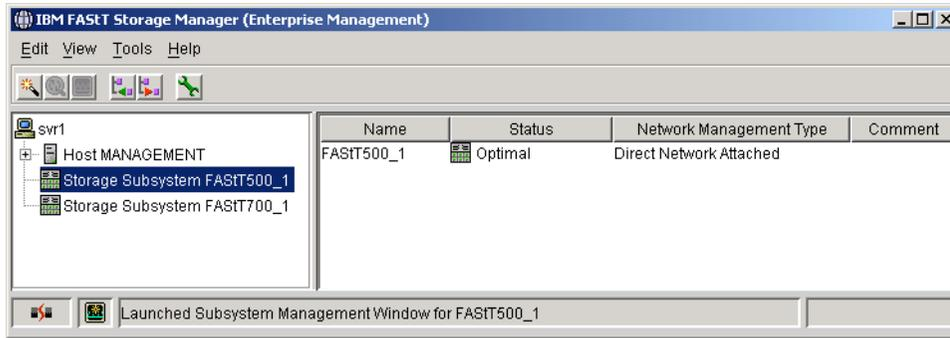

Figure A-1 Selection of FAST RAID Controller
1. Storage Manager starts at the Enterprise Management window, which displays the storage servers that you are able to manage, as shown in Figure A-1: